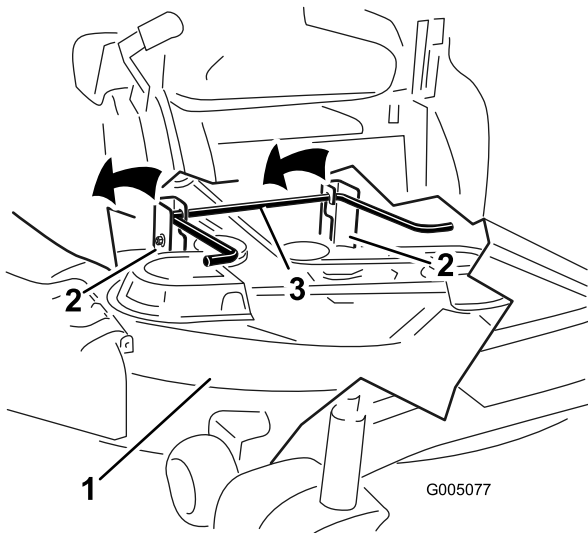

**Figure 56**
4. Remove the hairpin-cotter pin from the front support rod, and remove the rod from the deck bracket (Figure 56).
- 6. Attach the front support rod to the mower deck with the clevis pin and hairpin-cotter pin (Figure 56).